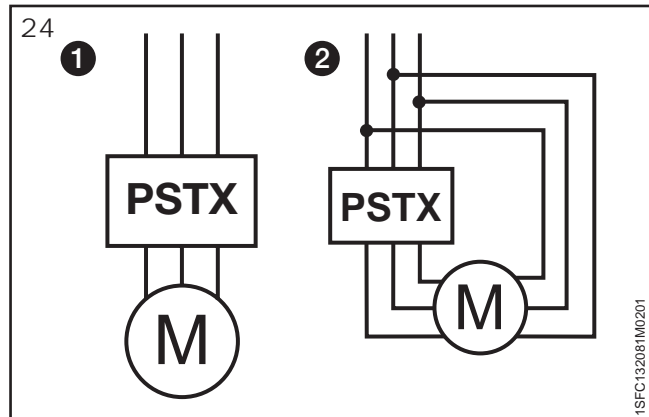
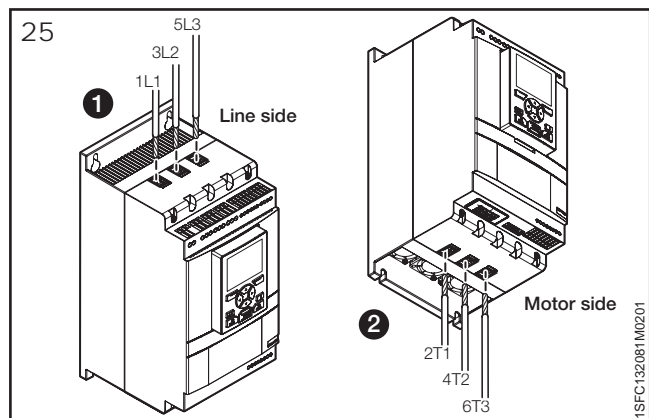

Figure 24: In line (1) and inside delta (2) connection.
Figure 25: Terminal connection clamps.
Softstarters PSTX30...PSTX370 can be connected both In Line, see **1 Figure 24**, and Inside Delta, see **2 Figure 24**. Use wire connection for PSTX30-105 see **Figure 25** and terminal connection for PSTX 142-370 see **Figure 3**.
- Connect the line side to terminals 1L1, 3L2, 5L3. see **1 Figure 25 and 26**.
- Connect the motor to terminals 2T1, 4T2, 6T3 on the motor side. see **2 Figure 25 and 26**.